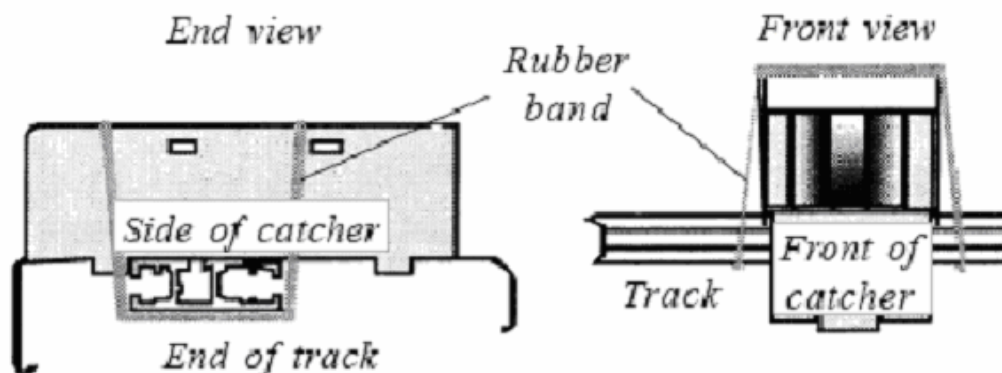

Figure 11.2: Mounting catcher on end of track
6. Using a rubber band, attach the catcher to the end of the track, as shown in Figure 11.2. Slide the catcher and rubber band to the end of the track so that the catcher's sides are at the 18.0 cm and 24.0 cm points on the track scale (measure its position with a precision of 3 sig. fig., i.e., to the nearest mm).